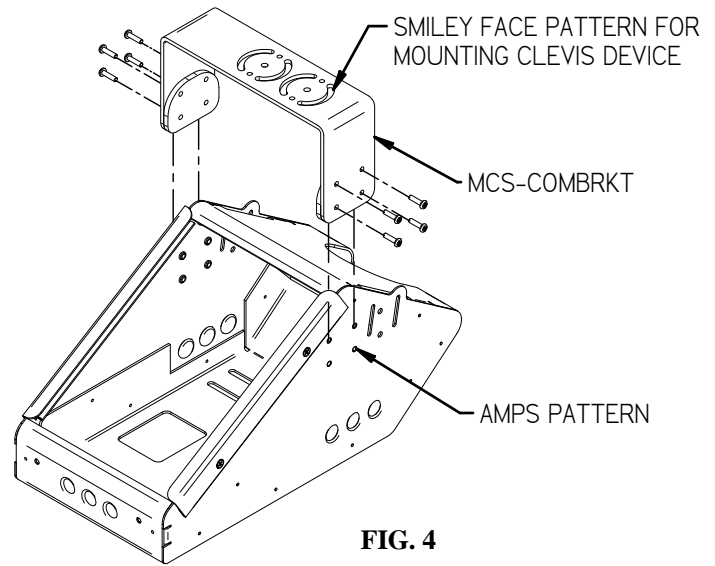

FIG. 4
1. The communications bracket is designed to have any Gamber Johnson Clevis device mounted to it. In order to mount a Clevis/Docking Station, or Computer Cradle, assembly to the MCS-COMBRKT, the MCS-ERGOBOX12 must be pulled away from the dash. Assemble the MCS-COMBRKT, desired Clevis Device, and MCS-ERGOBOX12 prior to attaching the box to the Top Plate (see FIG. 4).